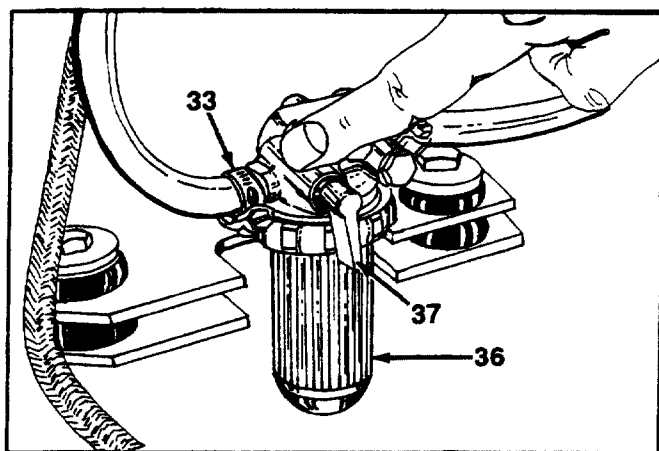

FIGURE 20.
22. Shut the fuel cock "off" at the secondary fuel filter. See figure 20.
23. Loosen hose clamp and remove inlet fuel hose from primary fuel filter to secondary fuel filter. See figure 20.